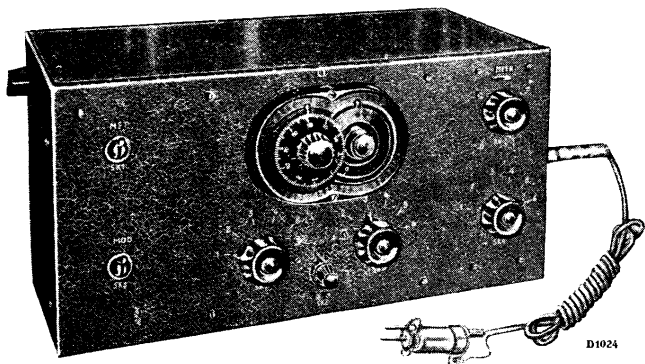

Fig. 3.
1. A Service Oscillator, Type 4028C, which covers a wave range of 100-1,500 K.C. or GM.2880 with a wave range of 21 M.C.-100 K.C., see Fig. 3. Particulars and prices can be had upon application.